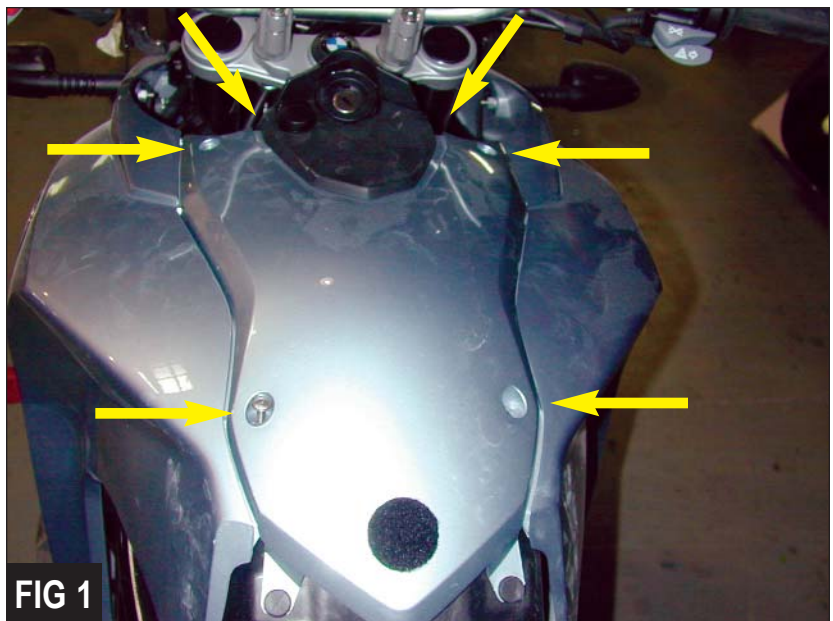

FIG 1
1. Remove the top tank panel to expose the battery (Figure 1).